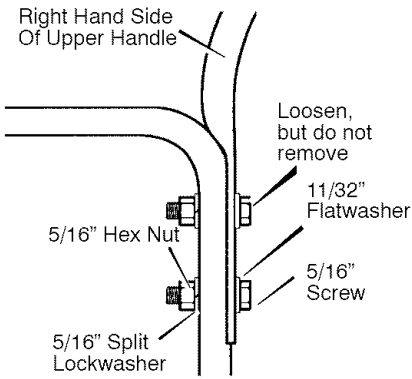

Figure 3
3. Loosen, but do not remove, the screws, flatwashers, lockwashers, and hex nuts in the upper holes of the lower handle. See Figure 3.